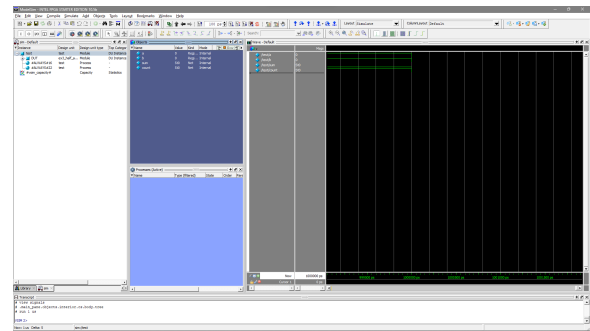

Figure 28: Check the simulation result with automatic opened waveform window
19. Switch to "ModelSim" window. (Figure 28)